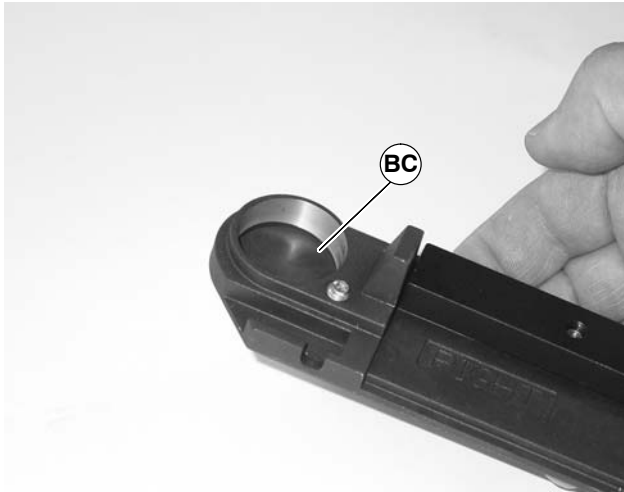

Figure 37
1. Inspect the head plates bearing seating surface (BC of Figure 37). If they are worn or damaged, replace the head. See "Service Parts" on Page 20.